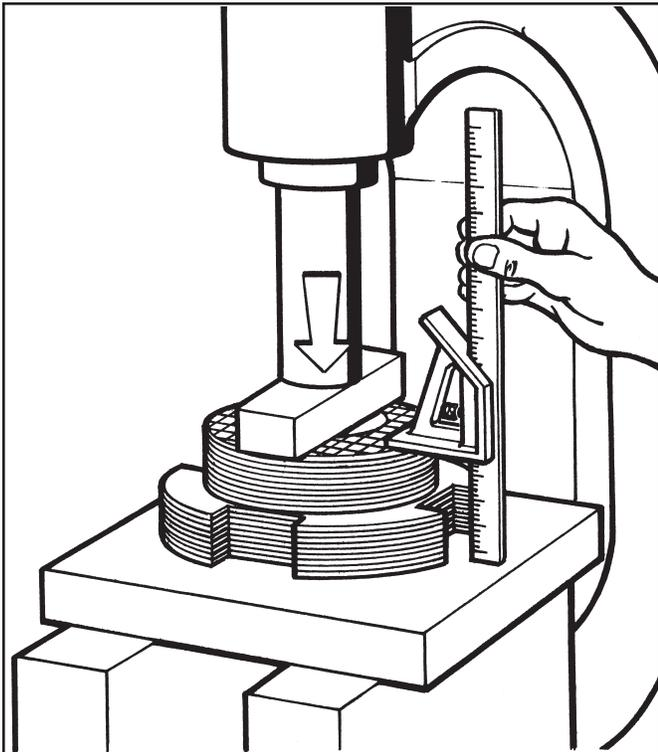

Figure 9.9 - Measuring Stack Height
- Based on the parts list, place the total number of Friction Discs and Drive Plates in an arbor press as shown in Figure 9.9.